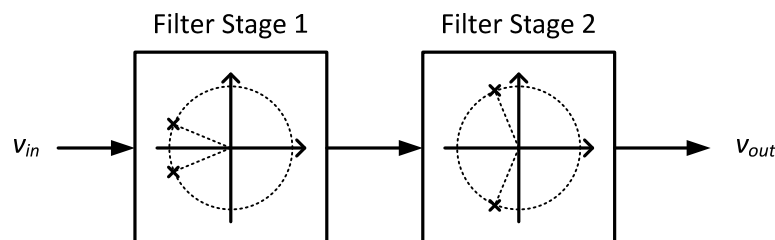

Figure 2. Two-stage filter implementation.
P1.2 The 4th-order filter will be implemented with two Sallen-Key filter stages that are cascaded (connected in series), as shown in Figure 2.
- c) You will now wire the two stages together in series, as shown in Figure 2. It may help to copy the cellview to preserve your work from part b). To do this, open the *Library Manager*, select the *prelab1_3b* cell name so that it is highlighted and right-click on it.
L1.3 Connect the two stages together as shown in Figure 2. Connect the input of the first filter stage to the function generator configured as a sine wave, 100mVppk, and high-Z mode. Using both channels on the oscilloscope, simultaneously measure the input and output voltages. Record the input and output amplitudes from 1kHz to 1MHz in logarithmic steps of 3 points per decade. Additionally measure the 3dB frequency. If there is peaking in the frequency response, measure the frequency of the peak and the input and output voltages at that frequency.